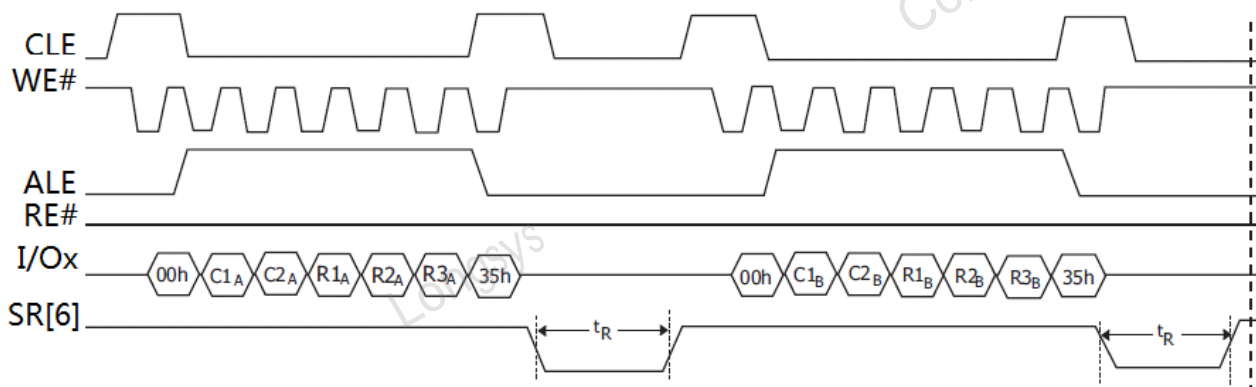

**Figure 40 : Multi-plane copy-back program (traditional protocol)**
Same restrictions on address of blocks on plane 0(A) and 1(B) and allowed commands as **Figure 40** apply